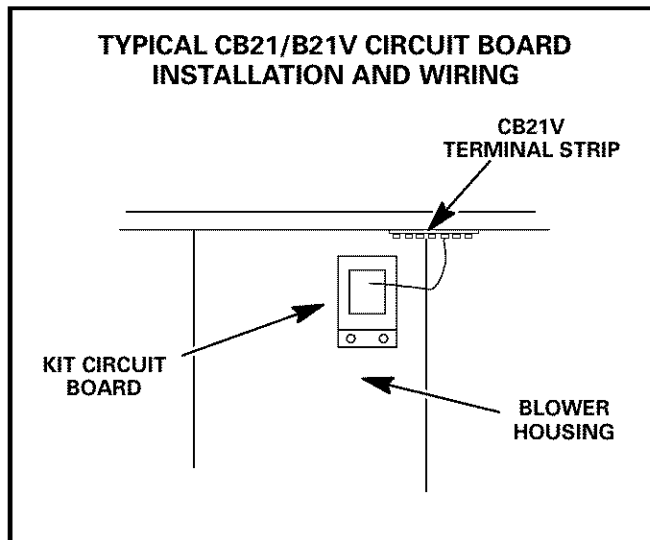

**FIGURE 10**
- 7- Before tightening mounting bracket screws, belly band screw and motor shaft set screw, the embossed arrow on the ICM2+ motor must be pointing **UP**. For upflow applications, motor arrow must point to the blower housing opening. For downflow applications, the arrow must point to the return air end of the furnace. In this position, the control and power plugs on the motor will face downward. For horizontal applications, motor arrow must point to the back of the unit with the power and control plugs toward the access panel side. See figure 10.